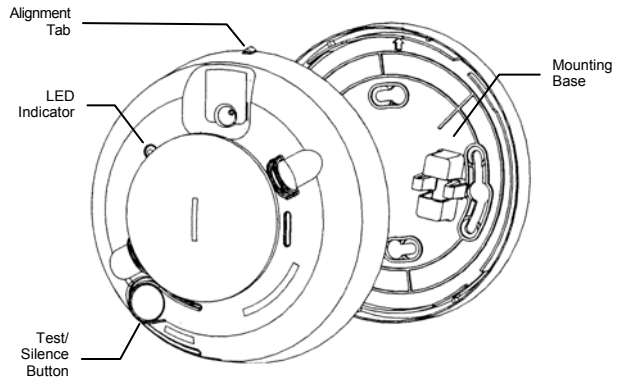

Figure 2: EL-2603NA and its Mounting Base
Remove the EL-2603NA smoke detector from its mounting base. To do so, grasp the detector and turn it counterclockwise approximately 15 degrees. The detector should snap off of the mounting base. To remove the detector from the mounting base when the detector/base lock is used, insert a small screwdriver into the locking tab slot on the side of the base and press in while simultaneously turning the detector counterclockwise 15 degrees. See Figure 2
2. Press the test button (See Figure 2)